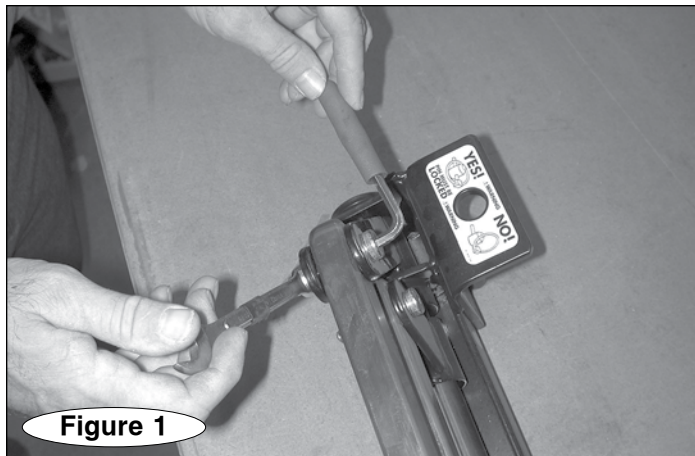

Figure 1
1. Using the 1/4" Allen wrench and 9/16" socket wrench, remove one of the original collar shoulder bolts (Figure 1); install the replacement bolt and Nylock washer. Repeat for the other collar shoulder bolt.